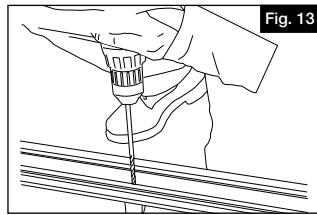

Fig. 13
- c. Pre-drill using a $\frac{1}{4}$ " drill bit through the beam (Fig. 13). Screw through the bottom beam (C) and bottom rail support (M) into the standing surface with the #12 x 5" screws provided (H). Do not over-tighten.